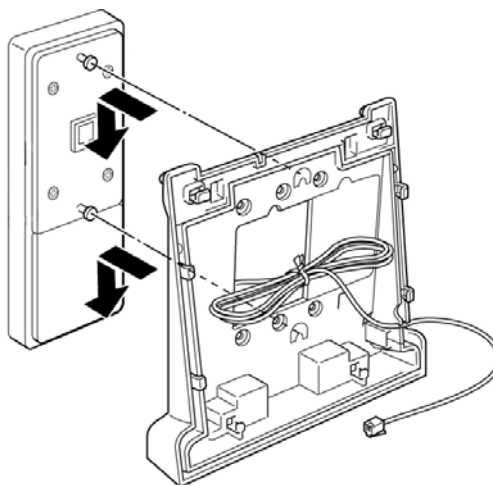

Figure 4-29: Wall Mounting Base Plate on Switch Box
1. Locate the screw holes on the base cover and hang the cover over the screws on the switch box as illustrated in *Figure 4-29: Wall Mounting Base Plate on Switch Box*.